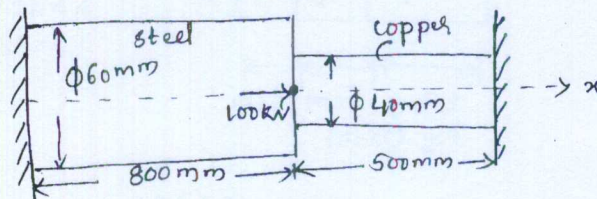

Fig. Q3 (a)
- 3 a. Using penalty method of handling boundary condition determine the nodal displacement, stress in each element and support reaction in the bar shown in Fig. Q3 (a) due to applied force $P = 100 \text{ kN}$. Take $E_{\text{steel}} = 200 \text{ GPa}$; $E_{\text{copper}} = 100 \text{ GPa}$ (10 Marks)
- b. For the two bar truss shown in Fig. Q3 (b) determine the nodal displacement, stress in each element and reaction at the support. Take $E = 2 \times 10^5 \text{ N/mm}^2$, $A = 200 \text{ mm}^2$. (10 Marks)